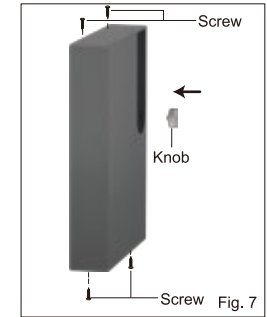

Fig. 7
8. Screw the front cover to body. Reinstall the knob (Fig. 7).